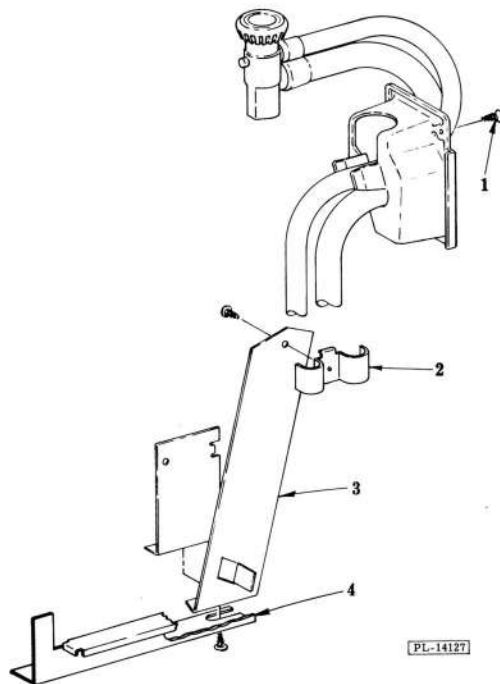

Fig. 48
WATER (FILL AND DRAIN) CONNECTIONS (Fig. 48)
2. Remove anchor bracket (3, Fig. 48) and hose guard (4, Fig. 48).
3. Remove hose clamp bracket (2, Fig. 48) holding hoses to frame.
2. Remove upper retaining screws (1, Fig. 48) from hose coupler housing.